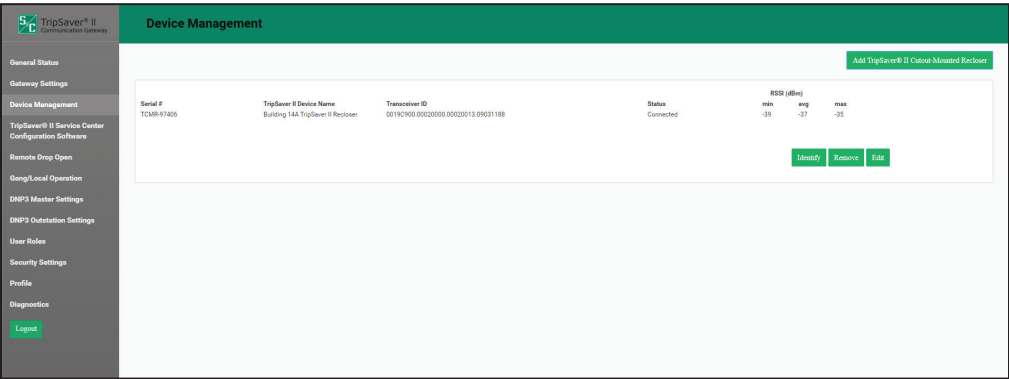

Figure 8. The *Device Management* screen after pairing a TripSaver II recloser.
- Click on the **OK** button. The communications gateway will connect to the TripSaver II recloser and it will display as “Connected” in the *Device Management* screen. See Figure 8.